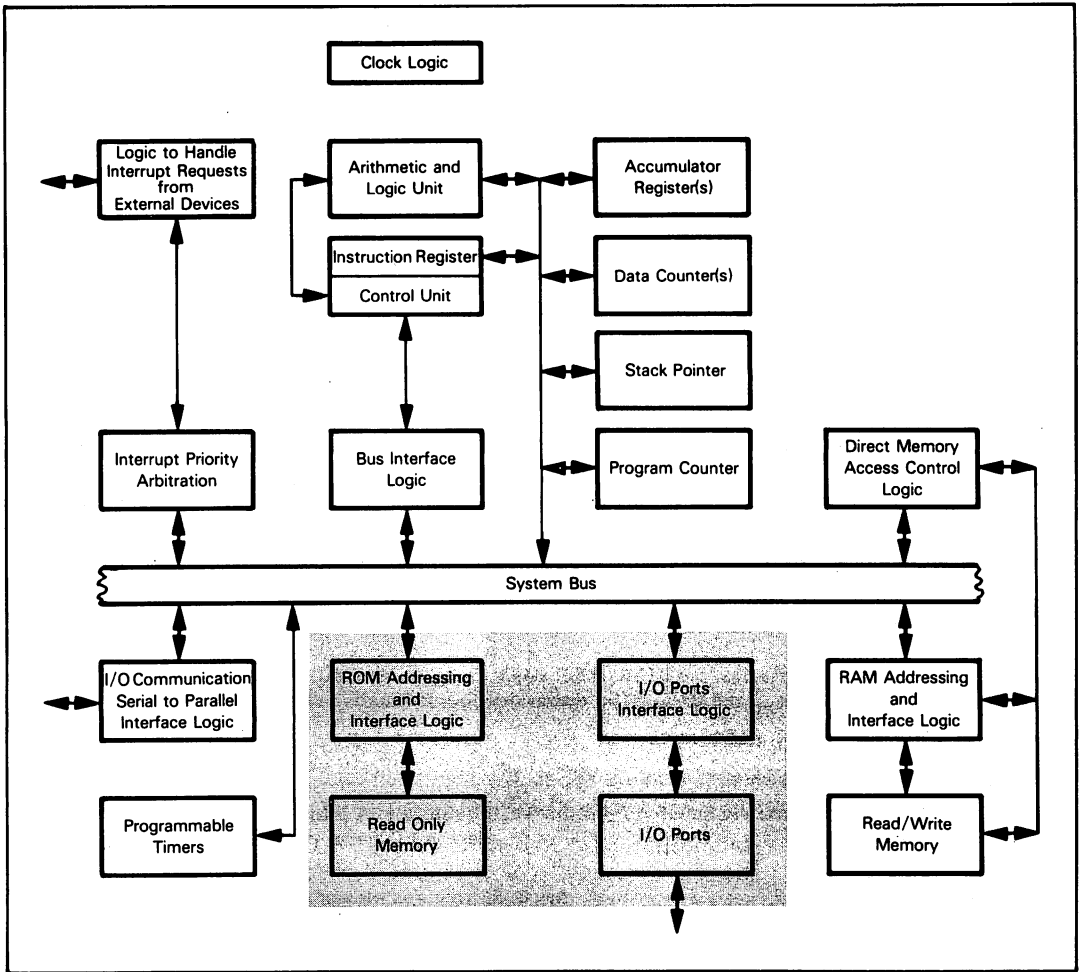

Figure 5-23. Logic of the 8355 and 8755 Multifunction Devices
**Figure 5-23 illustrates that part of our general microcomputer system logic which has been implemented on the 8355 device.**